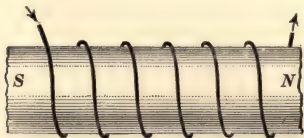

FIG. 27.
31. A magnet produced by inserting a magnetic substance into the magnetic circuit of a solenoid is an **electromagnet**, and the magnetic substance around which the current circulates is called the **core**. (See Fig. 27.) The solenoid is generally termed the **magnetizing coil**.